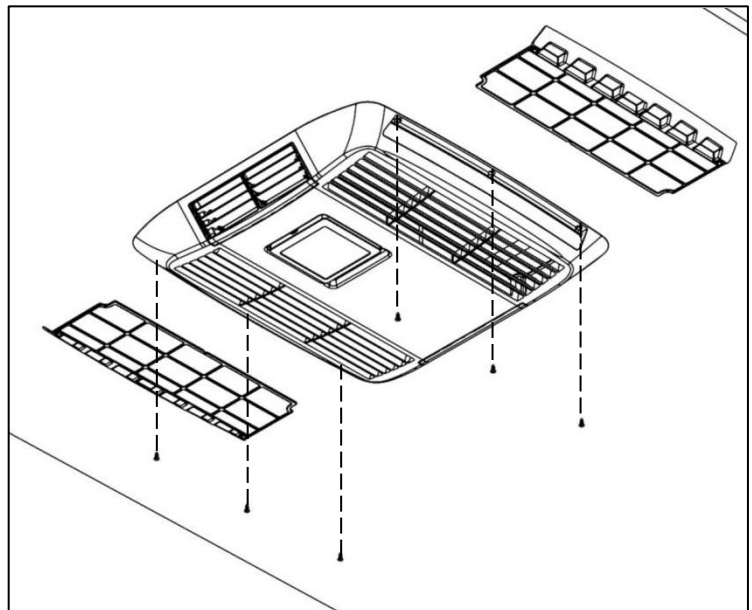

Fig 16: Remove the plenum filters and use the six self-tapping screws to secure the plenum over to the ceiling of the caravan. Be sure not to over tighten.
- Remove the filter elements by pulling them out of the plenum, and use the six self-tapping counter sunk screws to secure the covers edges to the caravan ceiling (Fig16). In some instances a very small pilot hole may need to be drilled to guide the screws into place.